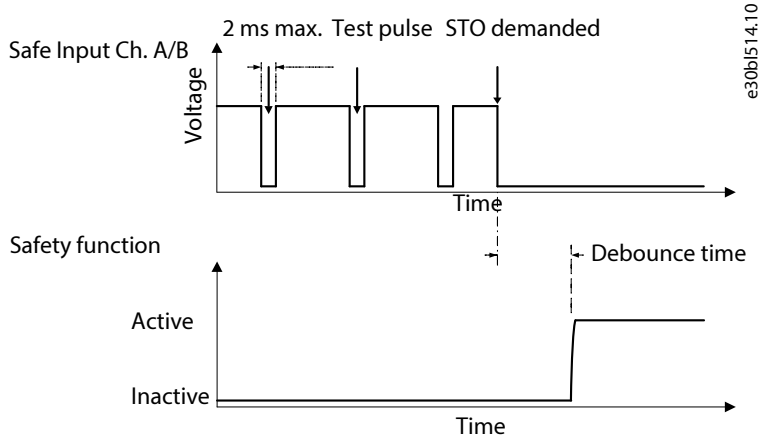
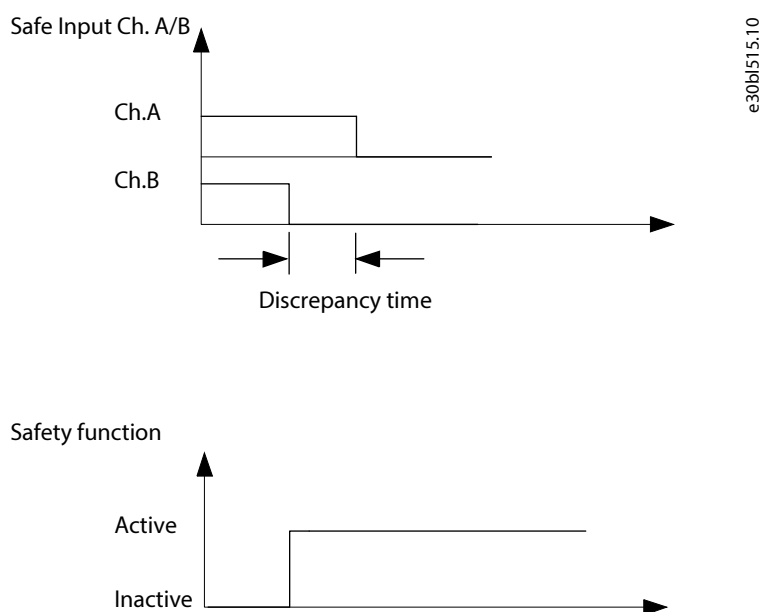

Figure 9: Test Pulse Filtering
Figure 10: Discrepancy Time
- **Galvanic isolation of terminals:** The functional safety I/O terminal blocks on the control board have separate, galvanically isolated inputs to allow, for example, interchanging of the polarities of the safe input terminals as shown in Figure 9 and Figure 10.